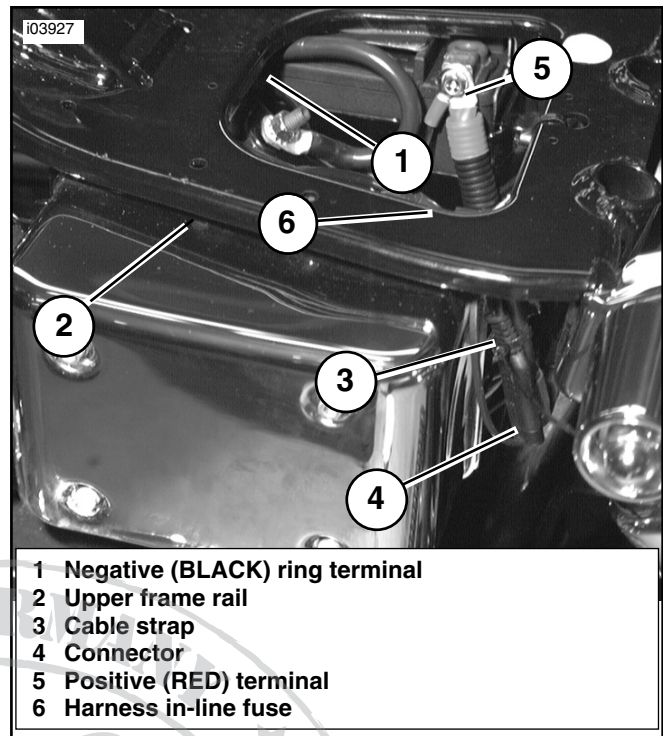

Figure 5. Dyna Battery Harness Routing
1. See Figure 5. Route the harness/ connector (4) toward the left (opposite) side of the frame. Cleanly tuck the in-line fuse (6) into the battery nesting area.
2. On 1999 and earlier models (with original equipment) continue to route the harness/ connector under the upper left frame pan and use a cable strap (3) to secure the connector to the vent tube as shown. Trim any excess from the cable strap.